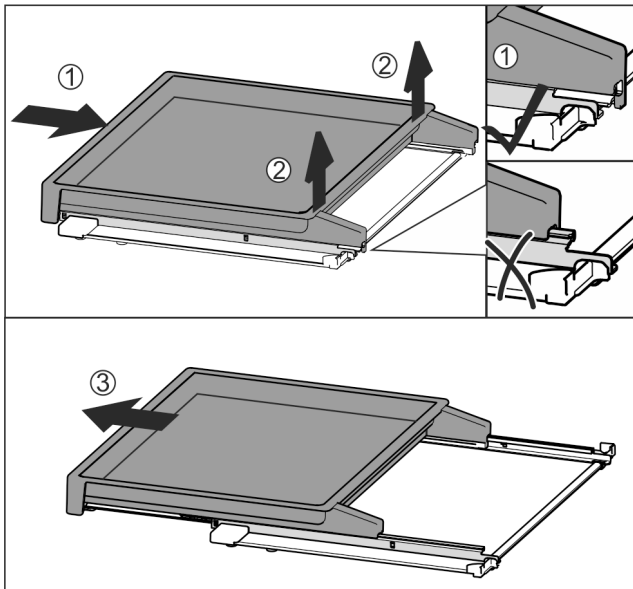

Fig. 115
- ▶ Slide the pull-out board all the way in Fig. 115 (1).
- ▶ Release the clips at the back Fig. 115 (2).
- ▶ Remove the pull-out board from the front Fig. 115 (3).